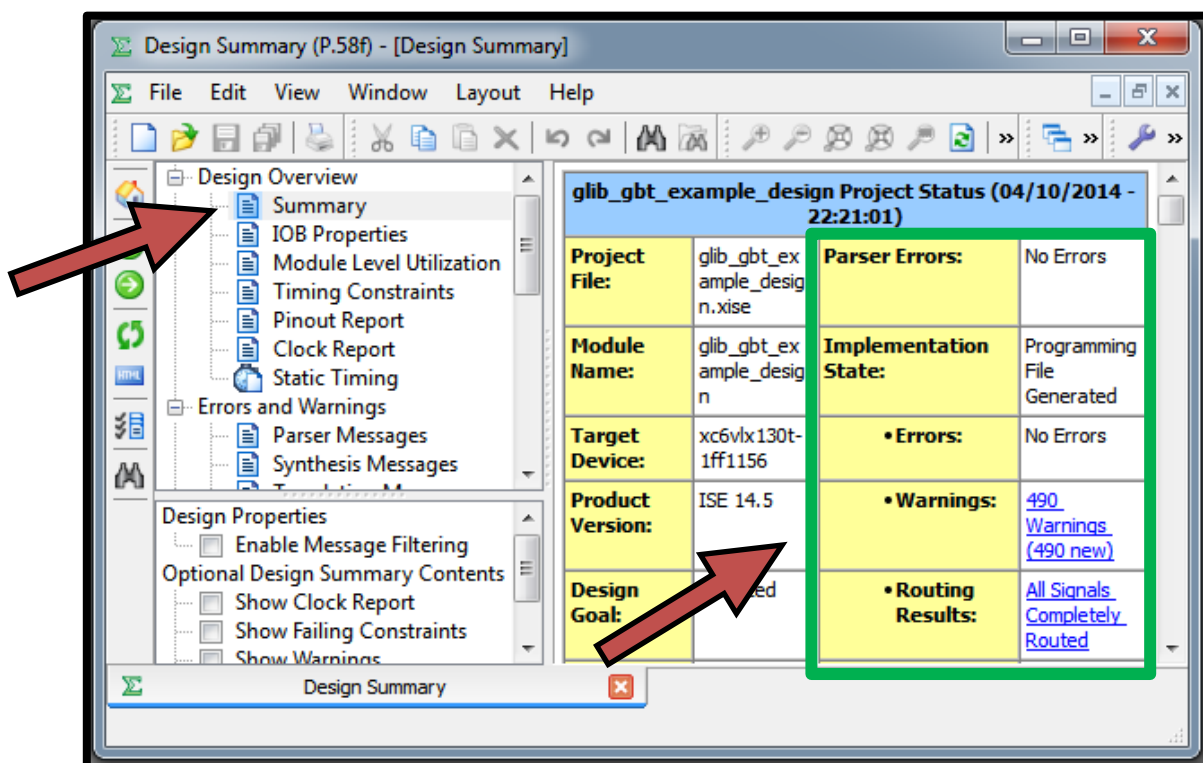

Figure 33: "Design Summary" report
15. The last step of this tutorial is the verification that all processes were done correctly. This information is shown in the right pane of the "Design Summary" tab, in the section "Design Overview" -> "Summary" (see Figure 33).